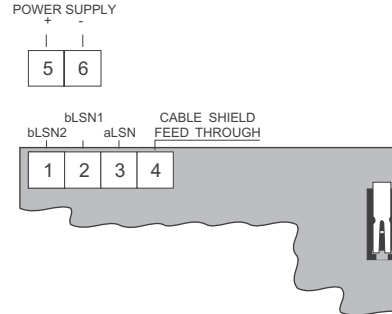

Fig. 2
- Replace the electronics module ⑩ and wire the detector as shown (Fig. 2).
- Replace cover ⑪, insert screw ⑫ and replace cover plate ⑬.